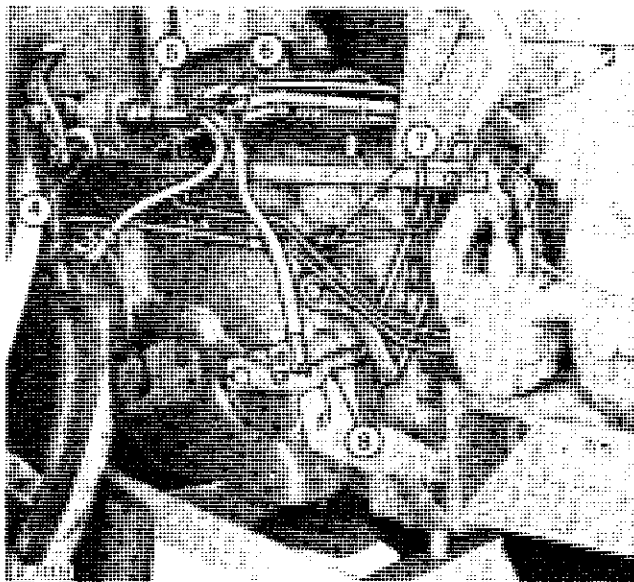

Fig. 17—Right-Hand Side of Transmission Case
4. Disconnect differential lock control link (Fig. 17).